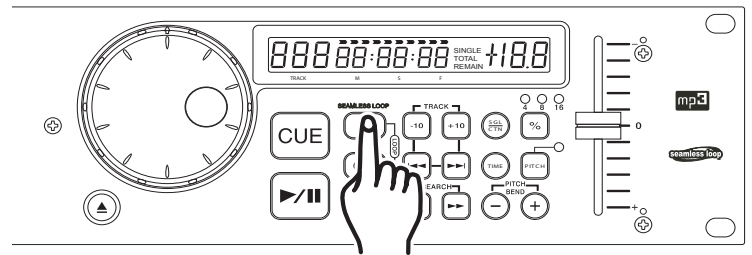

Figure 18
1) Press PLAY/PAUSE BUTTON (16) to activate playback mode.
2) Press the IN BUTTON (3). This will set the starting point of the SEAMLESS LOOP (figure 18). The IN BUTTON (3) will blink.